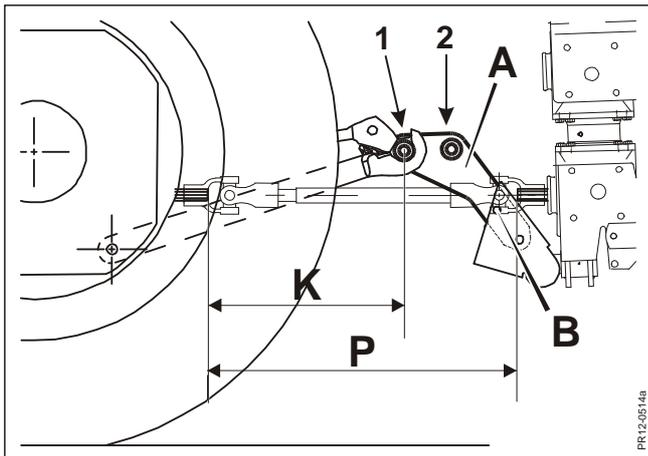

Fig. 2-2
- Fig. 2-2 The extension links **A** are shock absorbers in the Top Safe system, which is standard on the machine.
- Fig. 2-2 **SHORT LOWER LINK ARMS:**